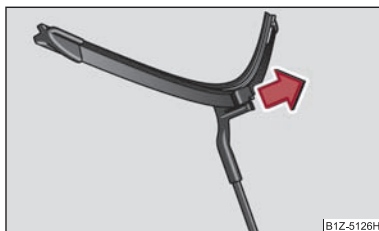

Fig. 51 Wiper blade for the windscreen wiper
- Take off the wiper blade in direction of arrow ⇒ fig. 51 ⇒ ⚠.
- Fold the windscreen wiper arms onto the window and switch on the ignition. By pressing the window wiper lever into the sprung position ④ ⇒ fig. 51 or when driving at a speed greater than 4 km/h, the windscreen wiper arms move back into the rest position.